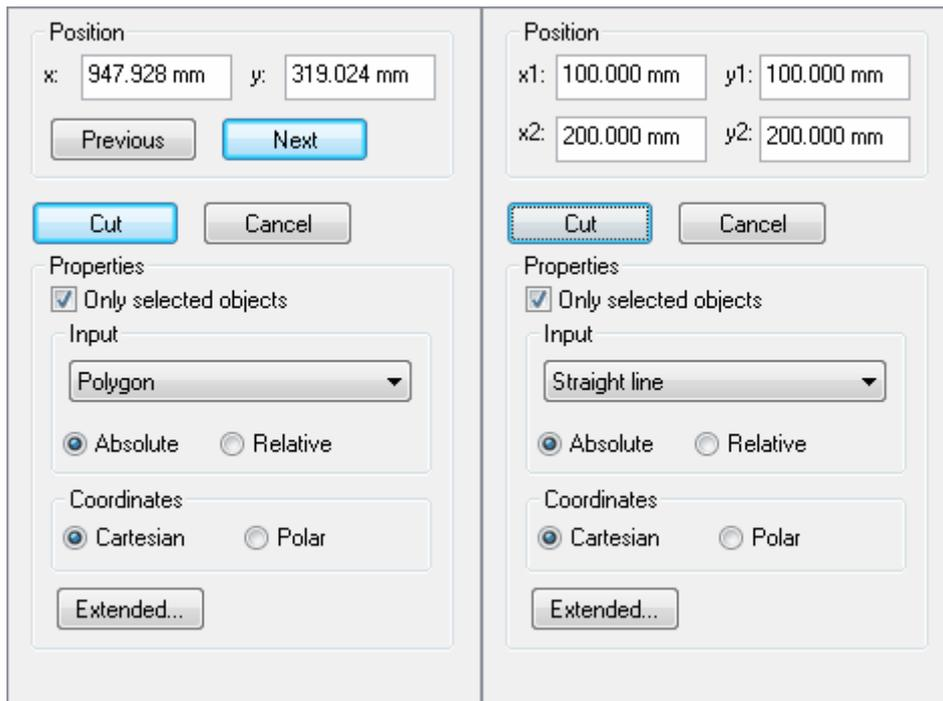

Figure 2: Cut tool properties
- Only those domains, which are separated into at least two parts, can be cut. Depending on the setting of **Only selected objects** (cf. figure 2), all domains or only the selected ones will be cut.